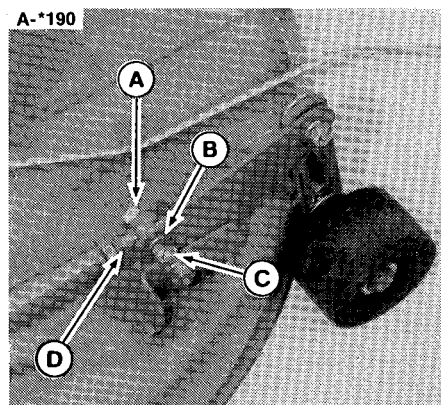

Figure 17. 26 & 30" Mower Leveling
4. Raise or lower one side until the mower is level. To do this, remove the bolt (A, figure 17), lockwasher (B) and nut (C)
7. Remove the bolt, lockwasher, and nut from one of the eyebolts (figure 17). Turn the eyebolt out to raise the rear of the mower or turn eyebolt in to lower rear of mower. Remember exactly how much eyebolt was turned and reinstall the hardware. Remove the bolt, lockwasher and nut from eyebolt on the other side of the mower and **turn eyebolt same number of turns**. Reinstall the hardware. Recheck the measurement taken in step 6.